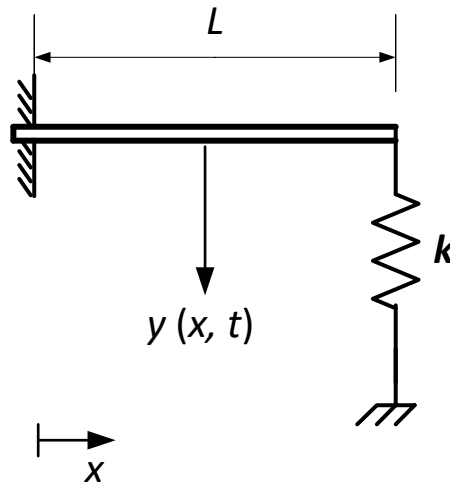

Figure Q4
4. Figure Q4 shows a uniform beam of length,  $L$ , density  $\rho$ , Young's modulus of elasticity  $E$ , and second moment of area  $I$ . One end of the beam is clamped, while the other end is connected to a spring of stiffness,  $k$ , as shown.